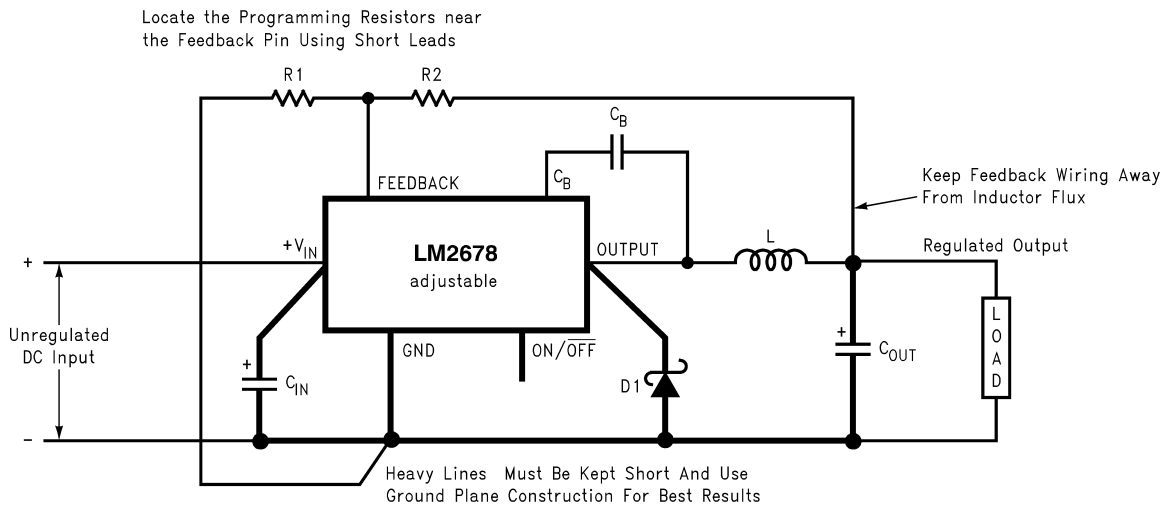

Figure 20. Basic Circuit for Adjustable Output Voltage Applications
Step 2: Select an LM2678S-ADJ. To set the output voltage to 14.9V two resistors need to be chosen (R₁ and R₂ in Figure 20). For the adjustable device the output voltage is set by the following relationship: